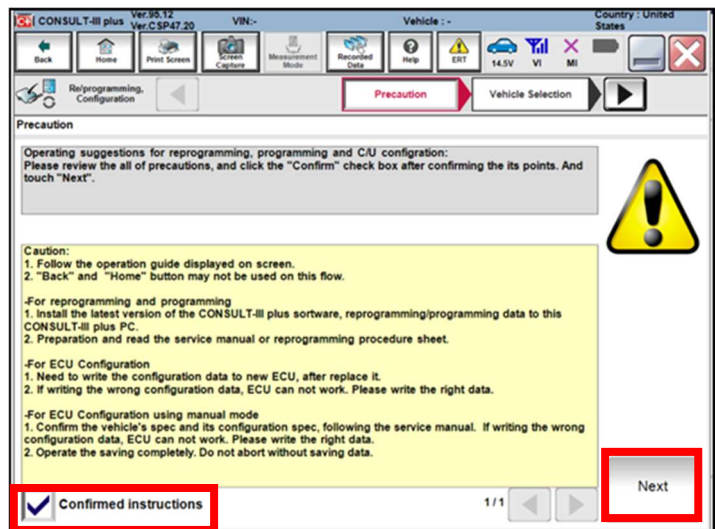

Figure 15
17. Review Precaution. (Figure 15)